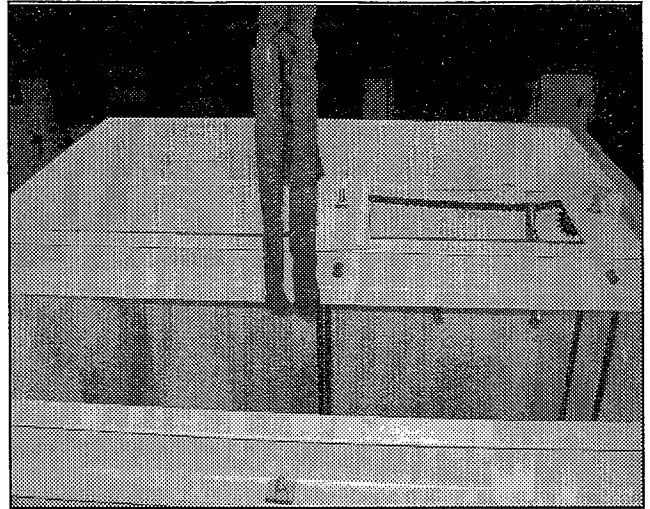

Figure 2
2. Lift top section (with gate) using sprocket frame as lifting point. Be careful of chain and sprockets. Place top section on intermediate section lining up cable track welded to one panel on each section. Bolt with 5/16" bolts, washers and locknuts. Square up sections corner to corner as best you can. See Figure 2.